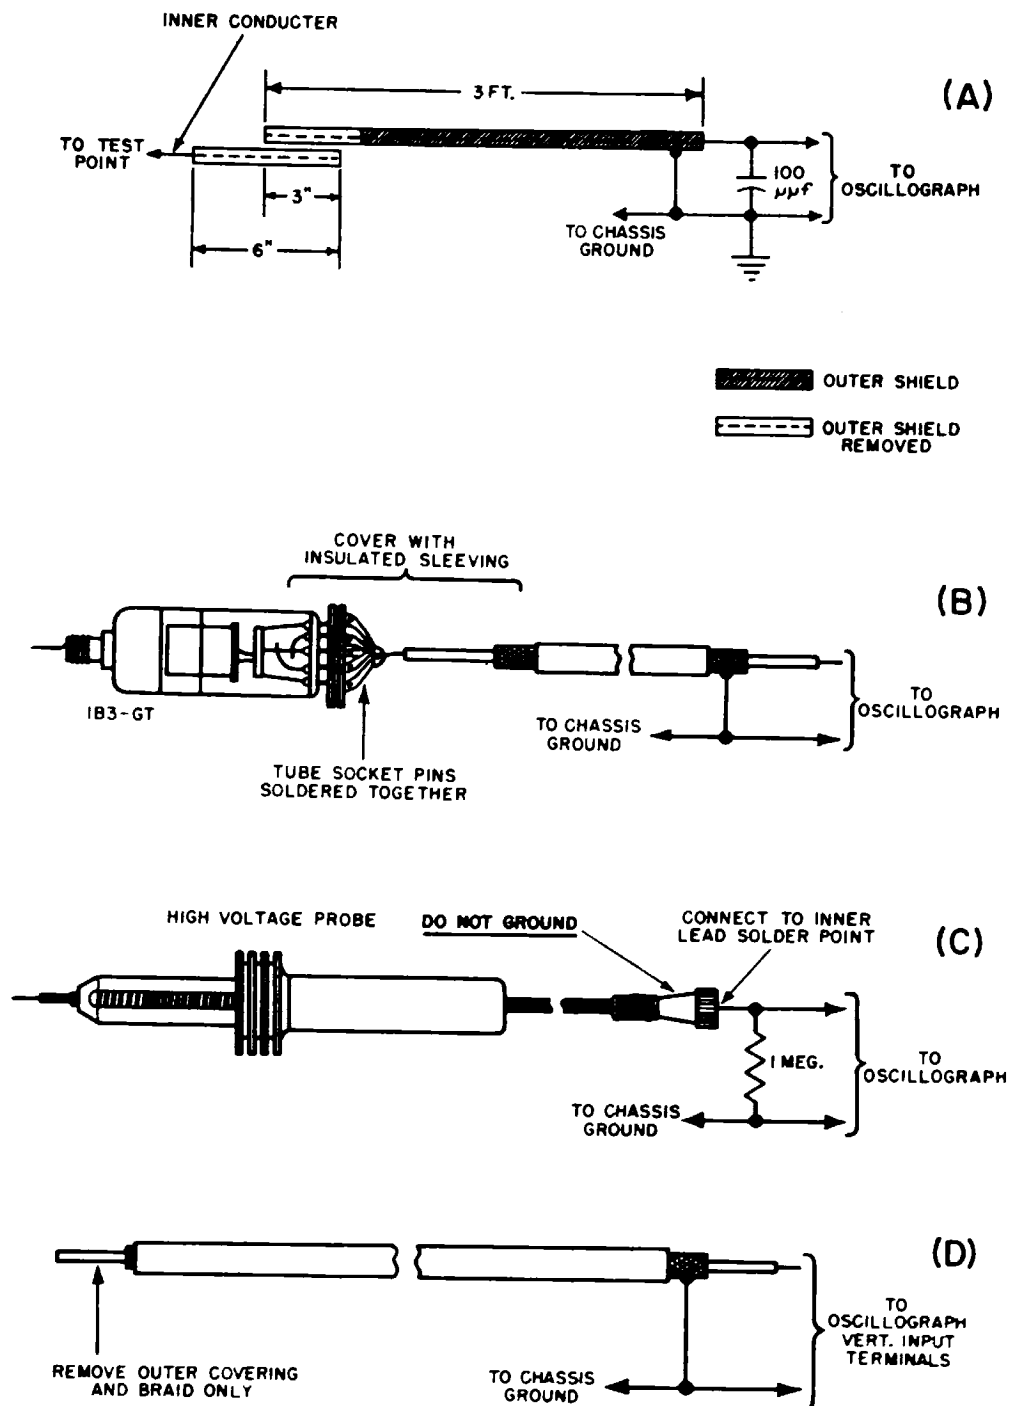

Fig. 3-31. High-voltage probes for use with scope to observe high-voltage wave-forms. Courtesy DuMont Service News.
ANS. Some of the probes that may be used in conjunction with an oscilloscope to measure high-voltage waveforms are illustrated in Fig. 3-31.
DISCUSSION. The probe of Fig. 3-31(A) consists of two pieces of RG-59/U coaxial cable. To construct this probe, remove the outer shield of a 6-inch piece of coaxial cable, and also remove about 3-1/2
inches of the outer shield of a 3-foot length of cable. Place the cables so that they overlap, as indicated in Fig. 3-31(A), and tape them together. Connect a 100- $\mu\mu\text{f}$ capacitor between the inner and outer conductors of the longer piece of cable. When this capacitance type of probe is used, it will give a voltage step down of approximately 100:1.
The probe illustrated in Fig. 3-31(B) consists of a 1X2A high-voltage rectifier connected to the inner conductor of a length of RG-59/U coaxial cable.
The probe of Fig. 3-31(C) utilizes a high-voltage probe of the type used with vtvm's to which a 1-megohm resistor is connected. When using this probe to observe waveforms, make certain that the outer shield of the probe jack does not contact chassis ground during an observation of waveforms.
Figure 3-31(D) illustrates a capacitive gimmick that may be used with a scope to check waveforms. To construct it, simply remove the outer shield from approximately 1 inch of a convenient length of RG-59/U coaxial cable. With one of the coaxial cables connected to the scope, and with the scope set to a sweep frequency of 7875 cps, place the free end of the cable in the vicinity of the circuit point at which the waveform is to be observed.
QUES. 3-32. How may the high-voltage scope probe of Fig. 3-31(A) be calibrated to measure peak voltages accurately?